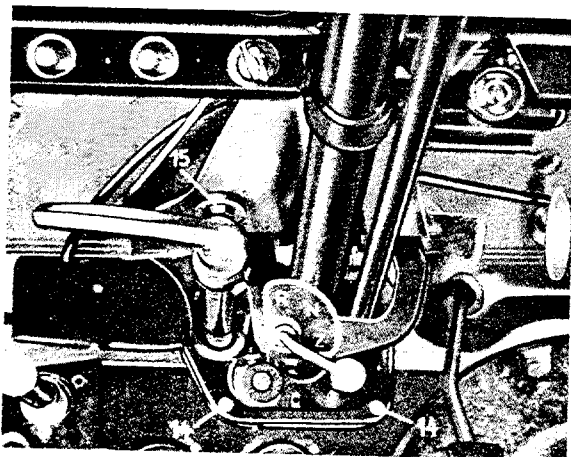

Fig. G 14/3
3. Detach brake cable from hand brake lever. Loosen bracket fastening (15) of stick-type hand brake, then pull notched rod with bracket out of jacket tube support (Fig. G 14/3).